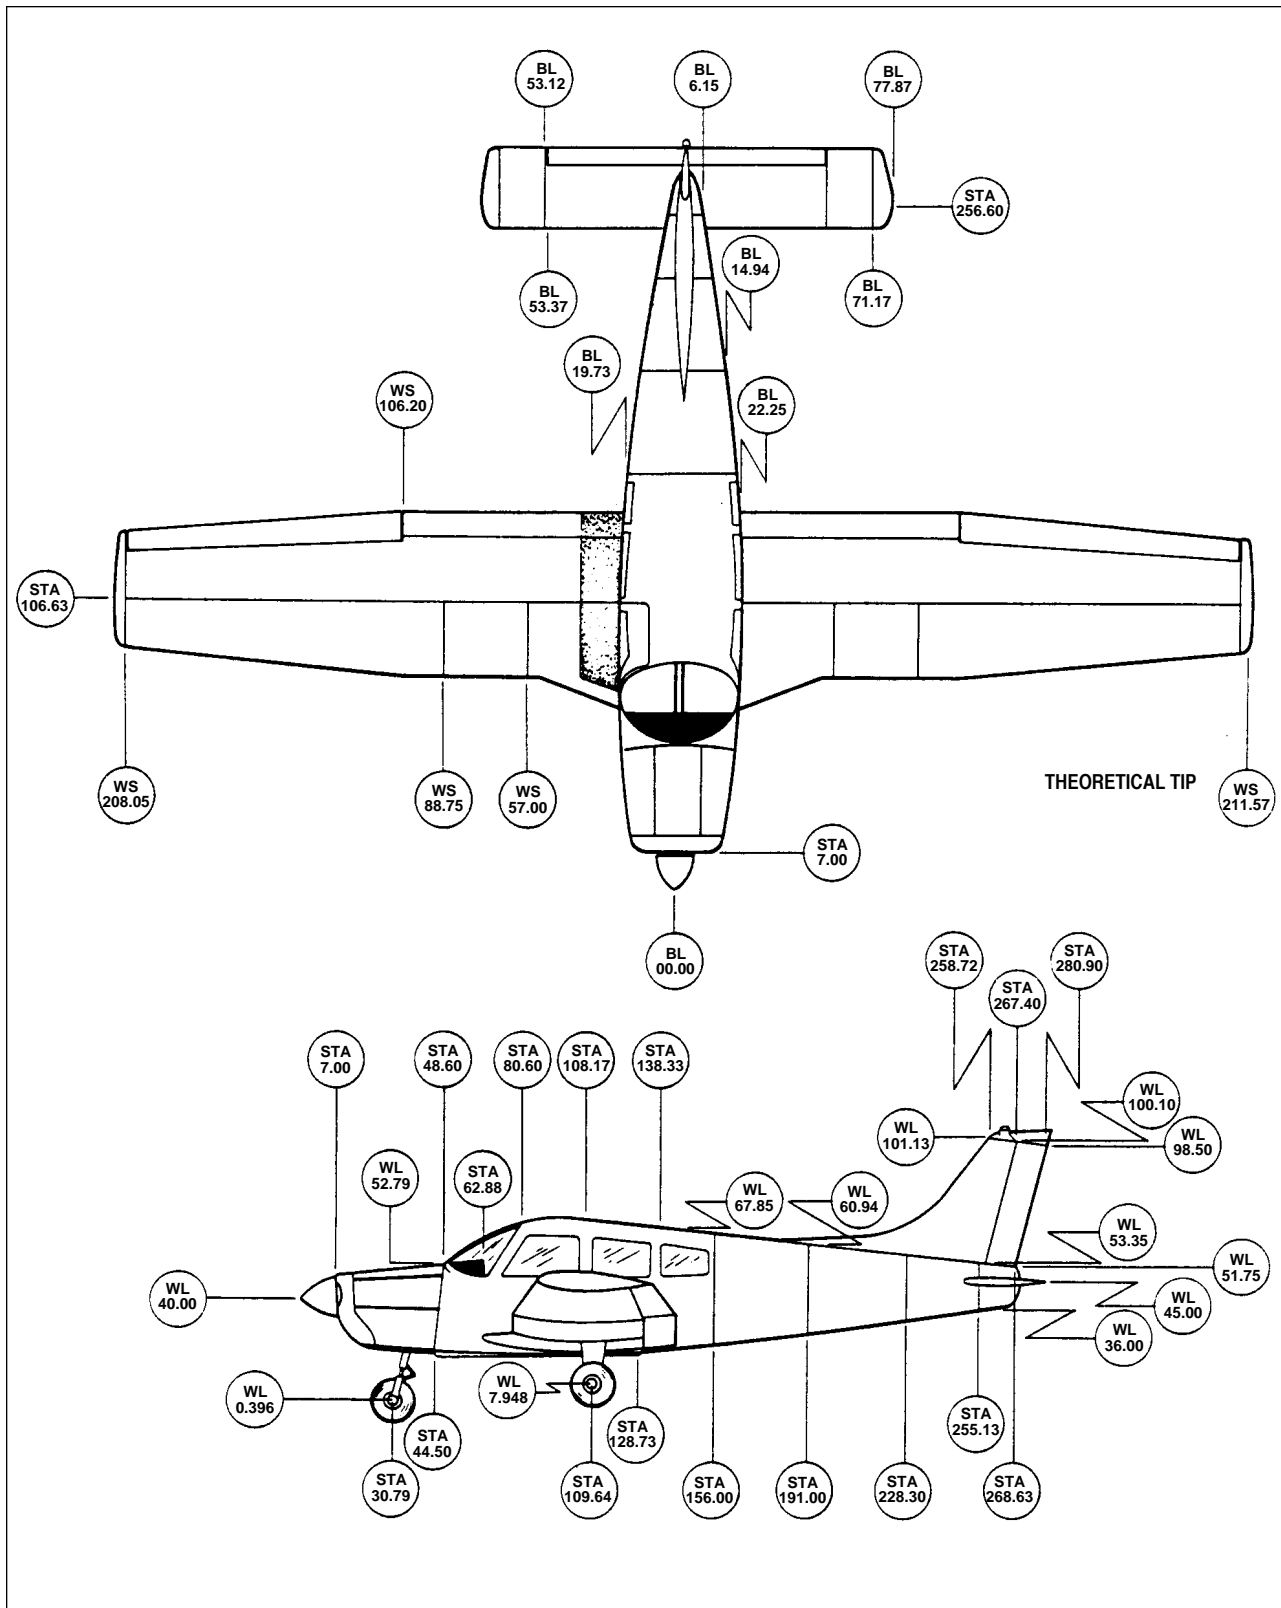

Figure 2-2. Station Reference Lines
2-3. STATION REFERENCE LINES: In order to facilitate the location of various components of the airplane which require maintenance and servicing, a method utilizing fuselage station (Sta.), wing station or buttock line (LB), and waterline (WL) designations is frequently employed in this manual. (Refer to Figure 2-2.) Fuselage stations, buttock lines, and waterlines are reference points measured by inches in the vertical or horizontal direction from a given reference line which indicates station locations of structural members of the airplane. Station 0 of the fuselage is 44.5 inches ahead of the lower edge of the fire wall; station 0 (BL) of the wing and stabilator is the centerline of the airplane; and station 0 (WL) of the fuselage vertical stabilizer and rudder is 20.5 inches below the cabin floor as measured at the rear wing spar with the airplane level. The reference datum line is located 78.4 inches ahead of the wing leading edge at the intersection of the straight and tapered section.